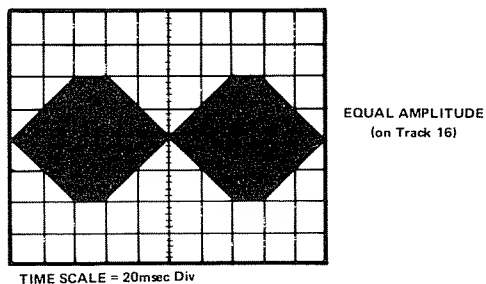

FIGURE 12. "CAT EYES" PATTERN
3. Read track 16 and verify the "cat eyes" pattern as shown in Figure 12. The smaller of the two "eyes" should not be less than 75% amplitude of the other. (% = small lobe/larger lobe x 100)